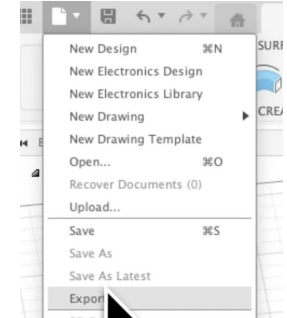

Figure 1.5
- Go to File → Export in the top menu (see Figure 1.5).